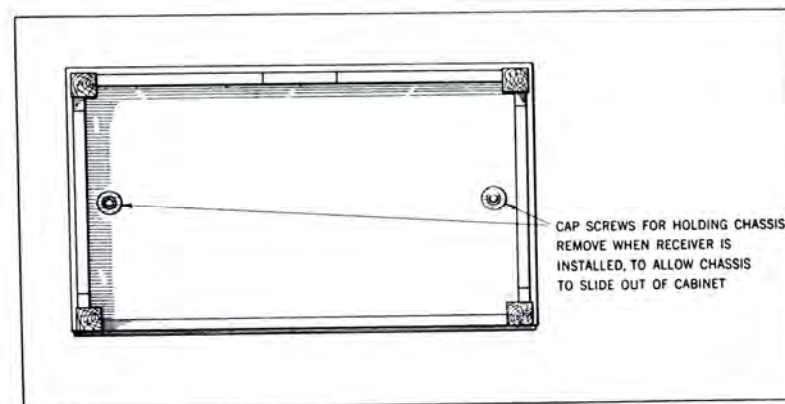
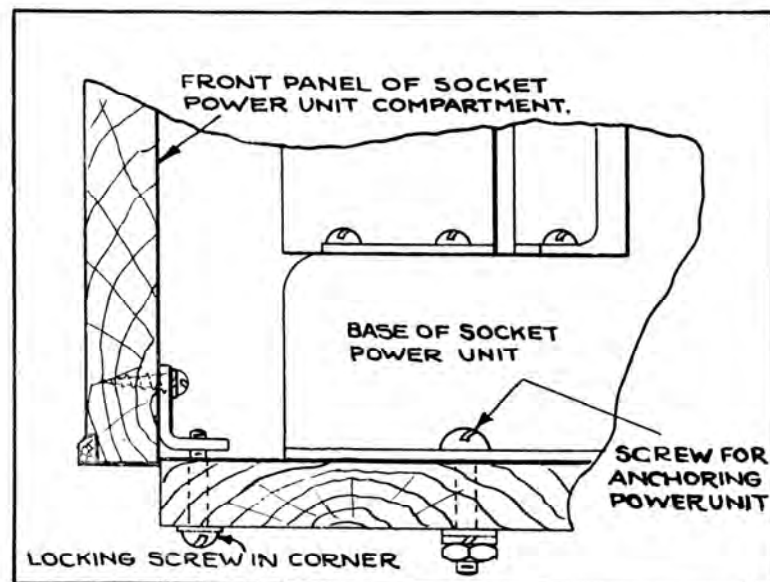

Fig. 6—Bottom View of Cabinet of No. 734 Receiver, showing Cap Screws to Anchor Chassis in place
Fig. 7—Section View of lower front corner of Socket-Power Compartment, showing Screws to lock front Panel
1. Remove rear panel of Cabinet, held in place by four corner screws. Remove cap screws at bottom of Cabinet anchoring Chassis in place (Fig. 6). Remove two screws locking front panel of Socket-Power Compartment (Fig. 7). Lift panel and slide in under top of cabinet to open compartment.
13. If a quiet operating position of the potentiometer cannot be found, reverse the position of the A. C. supply cord plug in the house lighting outlet or lamp socket. Close the cabinet panel of Socket-Power Unit compartment and fasten in place with Locking Screws. (See Fig. 7.) Turn up VOLUME control and tune receiver with the station SELECTOR knob.
The Unit is housed in the upper compartment of the console cabinet of the No. 734 Receiver. Once installed and operating quietly, it is never necessary to open this compartment except to replace rectifier tubes or to readjust the balancing potentiometer when a new UX-210 (Super-Power Output) tube is installed in the chassis. Special provisions are made to protect inexperienced persons from coming in contact with voltages above 200, when the No. 404 Socket-Power Unit is installed in the receiver cabinet. As an extra precaution it is necessary that the upper panel should be kept closed and locked shut with the locking screws provided. Moreover, it is possible for inexperienced persons to come in contact with 400-volts of direct current if allowed to meddle with the Socket-Power Unit while the receiver is operating. (See Fig. 7.)